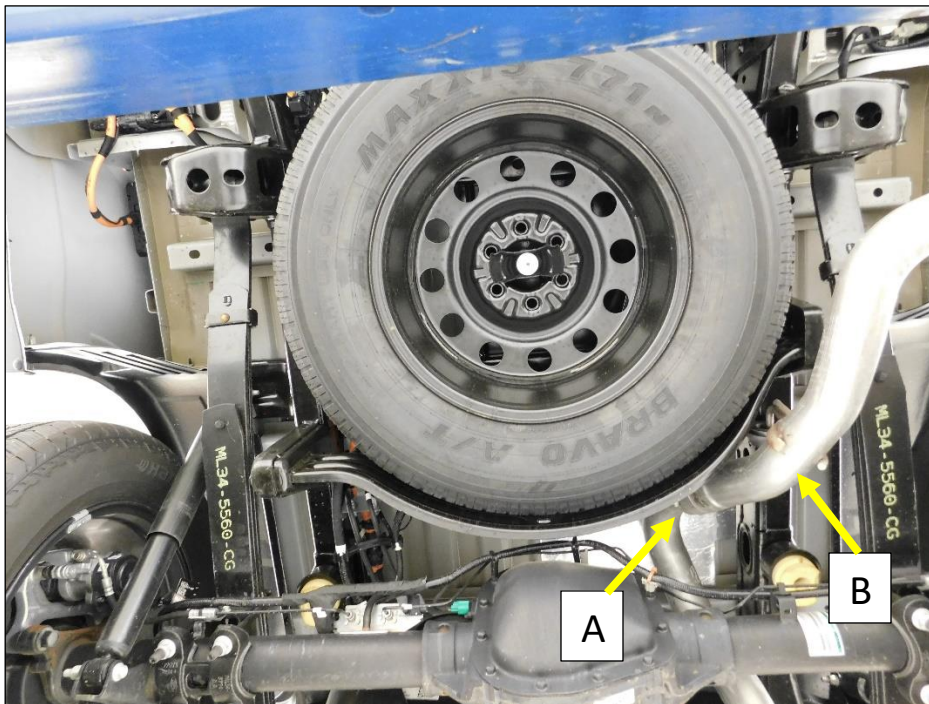

Figure 1
2. Loosen the 15mm nut on the band clamp (A) just over the axle on the tailpipe. **Fig. 1**
3. Remove the (x2) bolts from the frame hanger assembly (B). **Fig. 1**